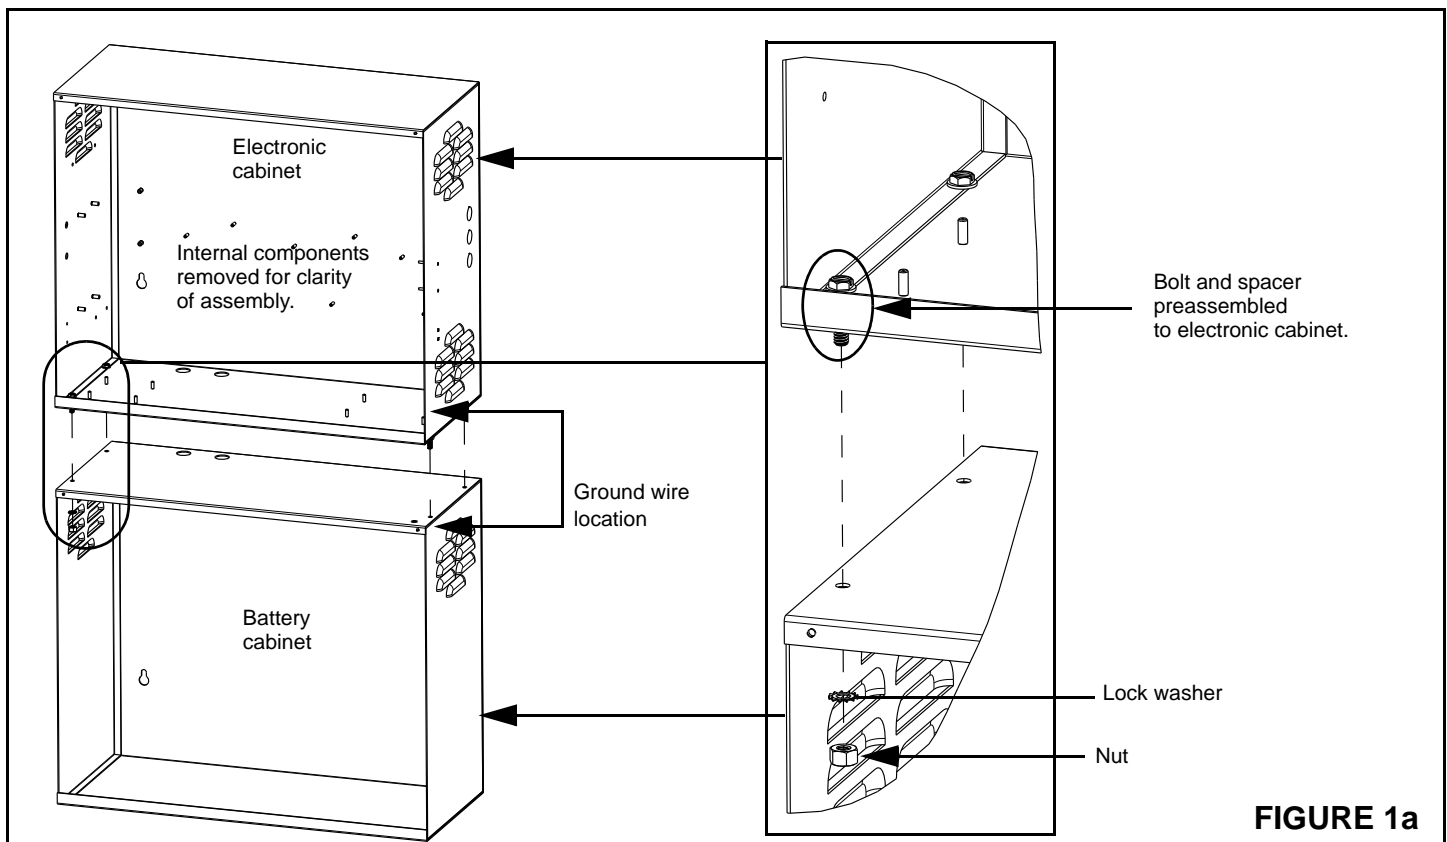

FIGURE 1a
STEP 1: MOUNTING THE MINI INVERTER TO WALL (SEE FIGURE 1A)